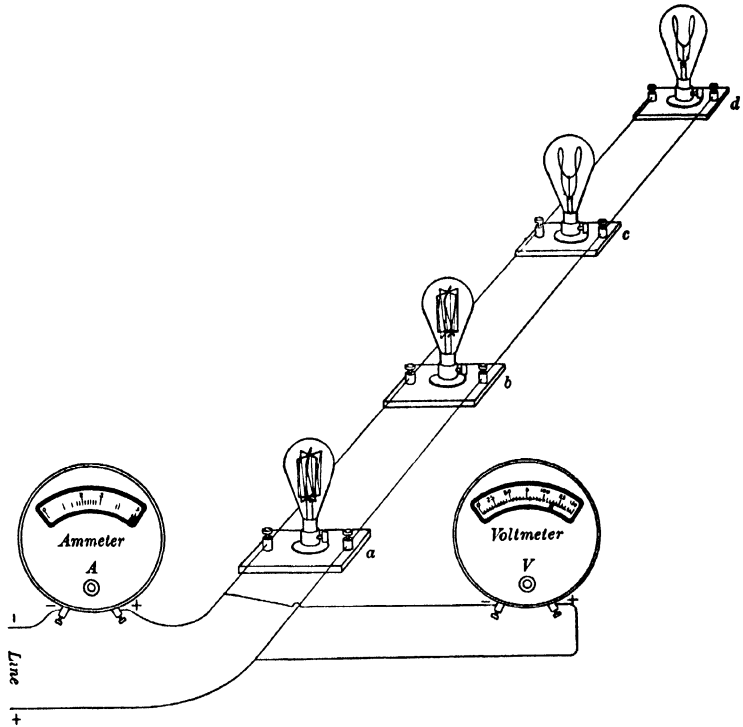

FIG 66
**I. Comparison of cost of operation.** Connect four lamps in parallel as in Fig 66. Introduce an ammeter in series in the "line" and connect a voltmeter across the line.
**II. How to connect lamps in a lighting circuit.** (*a*) Turn on all the lamps as you now have them connected (that is, in parallel, as in Fig. 66). Record the readings of the voltmeter and the ammeter and from these readings compute the joint resistance, when hot, of the four lamps in parallel. Call their joint resistance  $R_p$ .